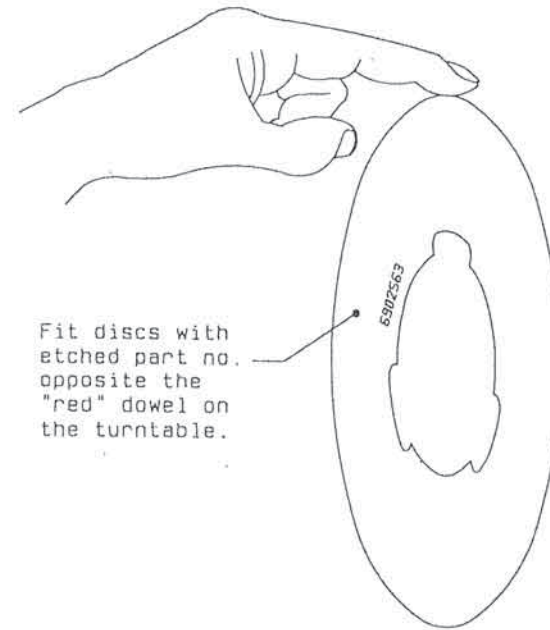

Fig.1
2. Run a finger round the edge of discs (Fig.1) which should be completely smooth. Roughness indicates "under etching". Discs with seed holes of 0.8mm diameter and above should, if under etched, have the edge smoothed off with a fine abrasive stone. Those with holes smaller than 0.8mm should be discarded.
3. Mark the seed discs so they remain with their respective units, and always fit them with the etched part number opposite the "red" dowel on the unit turntable. (Fig.1)